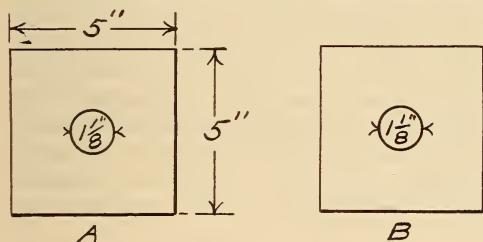

FIG. 11. END PIECE DIMENSIONS
measuring six inches wide by 14 inches long. The ends (A) and (B) however should be drilled with the holes one and one-eighth inch in diameter as shown in Fig. 11; the hole in (A) being drilled all the way through and in (B) countersunk to a distance of half the entire thickness, i. e., if the piece